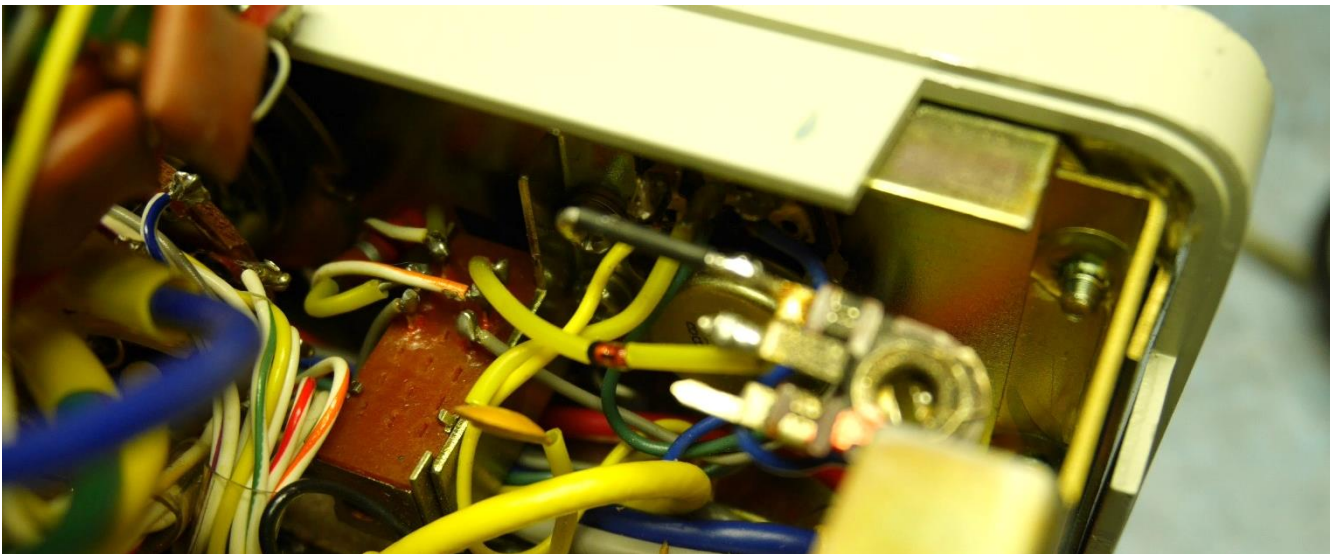

Figure 11- Extension wire
- (5) Solder the blue wire that you removed from the left lug to the right-hand lug.
- (6) Solder the yellow wire that you removed from the right-hand lug and solder it to the left-hand lug.
- (7) This leaves the CLAR calibration pot to reinstall. (see Figure 11)
- (8) Fabricate extension for this step. I used the lead from a 2-watt resistor. Form it per pictures. 10 -15mm in length max! About (1/2 inch) MAX! If it is too long it will not align up in original spot.
- (9) Solder to pot per Figure 11. Solder to left hand lug on back of CLAR pot. This will put the CLAR calibration pot back in the original spot.